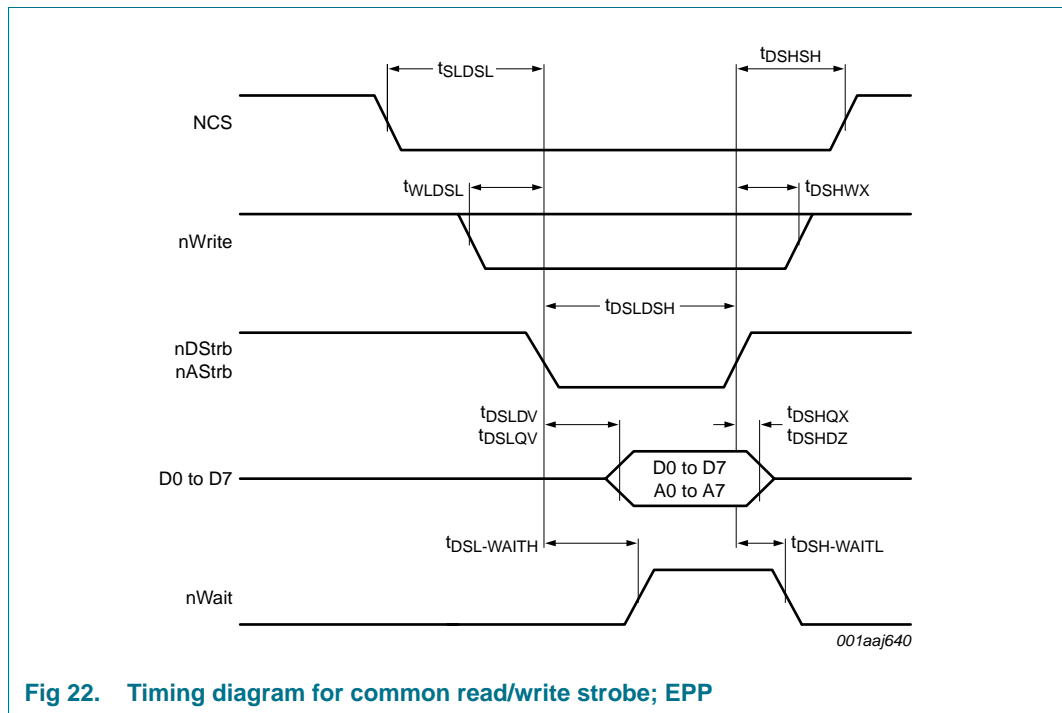

Fig 22. Timing diagram for common read/write strobe; EPP
**Remark:** Figure 22 does not distinguish between the address write cycle and a data write cycle. The timings for the address write and data write cycle are different. In EPP mode, the address lines (A0 to A2) must be connected as described in Section 9.1.3 on page 8.